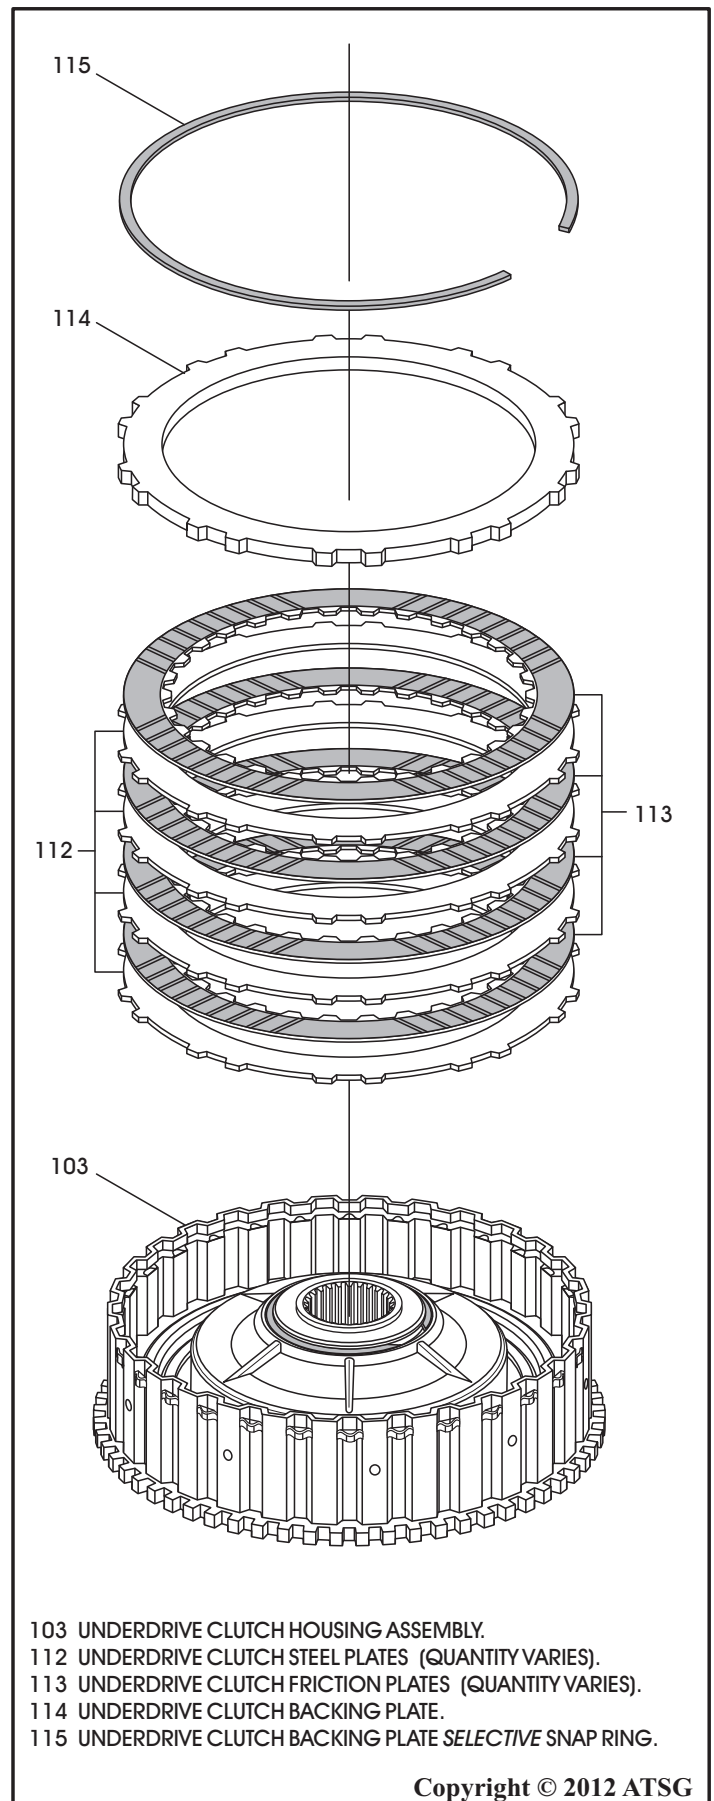

Figure 150
12. Install the underdrive clutch plates beginning with a steel plate and alternating with friction plates, as shown in Figure 150, until you have installed four of each (Quantity Varies).
14. Install the underdrive backing plate selective snap ring, as shown in Figure 150.